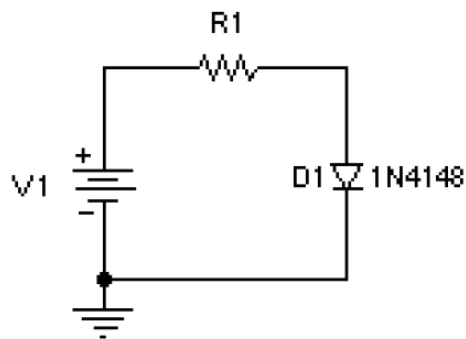

Figure 2-1: Basic limiting circuit
1. Approximation: For the circuit shown in Fig. 2-1 with $V_1 = 5V$, using the assumption $V_f = 0.7V$, find the resistor value you need to set the diode current to 5mA. This gives you the first set of operating-point data for the diode [0.7V, 5mA]. The resistor value will be used for the following steps.
2. Build the circuit shown in Fig. 2-1 with the component values used in the preparation section; use a voltmeter and an ammeter to measure the current and voltage of the diode.